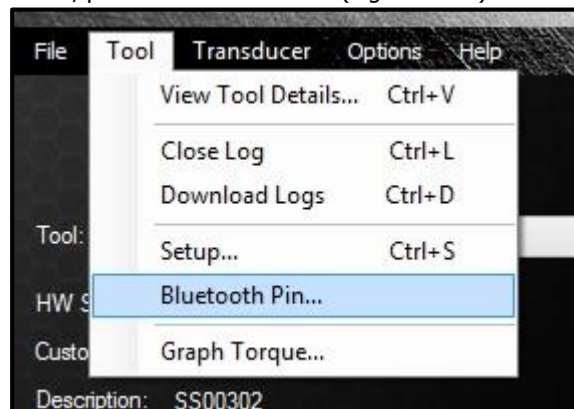

Figure 5.8-1: Bluetooth Pin Button
2. In the Tool Tab, press “**Bluetooth Pin**” (Figure 5.8-1).